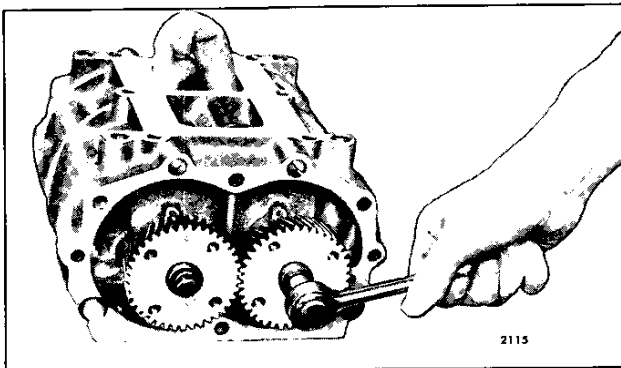

Fig. 17 - Installing Blower Rotor Gears
12. Wedge a clean cloth between the blower rotors. Use the gear retaining bolts and plain washers to press the gears on the rotor shafts (Fig. 17). Turn the bolts uniformly until the gears are tight against the shoulders on the shafts.